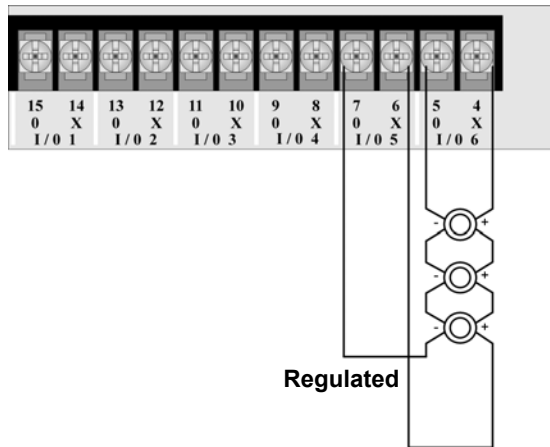

Figure 3.9 Class A Notification Appliance Circuit Configuration
1. Wire the Class A notification appliances as shown in Figure 3.9.
NOTE: In programming, any point that uses the multiple I/O circuits are always referred to as the lowest I/O circuit number used. For example, Figure 3.9 uses both I/O circuits 5 and 6. In programming, the circuits would be referred to as point 5.